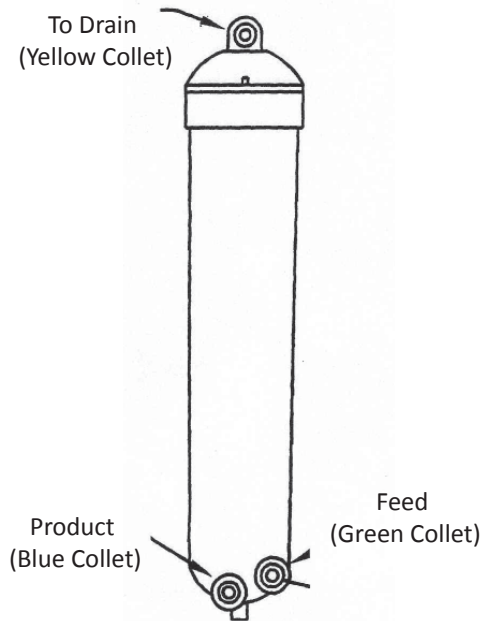

Fig. 6
4. Slip the 1/4" and 3/8" tubing through opening in polished faucet base. Slide white plastic spacer open-end-up onto the threaded faucet stem (2).
5. Thread the 3/8" washer (3) and mounting lock nut (4) onto the threaded stem. (Fig 6)
6. Thread faucet quick-connect adapter (5) on to threads of faucet stem. NOTE: This connection should be hand-tightened only. Push one end of product tubing into connection.
8. Position the faucet to the desired handle orientation. Slip the slotted washer (1) between the white plastic spacer and the sink. Securely hand tighten the mounting nut.
4. Remove feed tubing from old desalinator and insert it in the (green) feed connector of the new desalinator. See Figure 6.